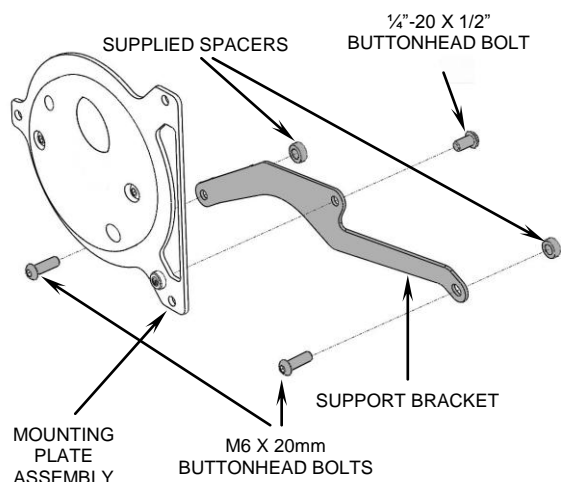

FIGURE 2
7. Attach the support bracket to the backside of the mounting plate using the (1) supplied 1/4"-20 X 1/2" buttonhead bolt, but **do not** fully tighten at this time. See Figure 2, for orientation.
9. Align the holes in the support bracket with threaded holes in the cylinder heads, then insert the (2) supplied M6 x 20mm buttonhead bolts through the support bracket, supplied spacers and into the cylinder heads. See Figure 2.